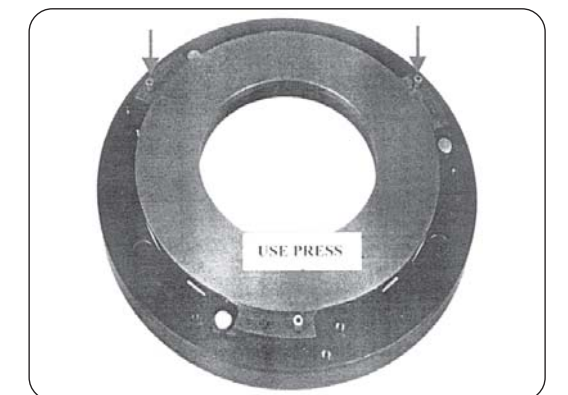

Fig. 10
5. Insert pressure plate on to the pressure plate rivet as shown in fig.10.